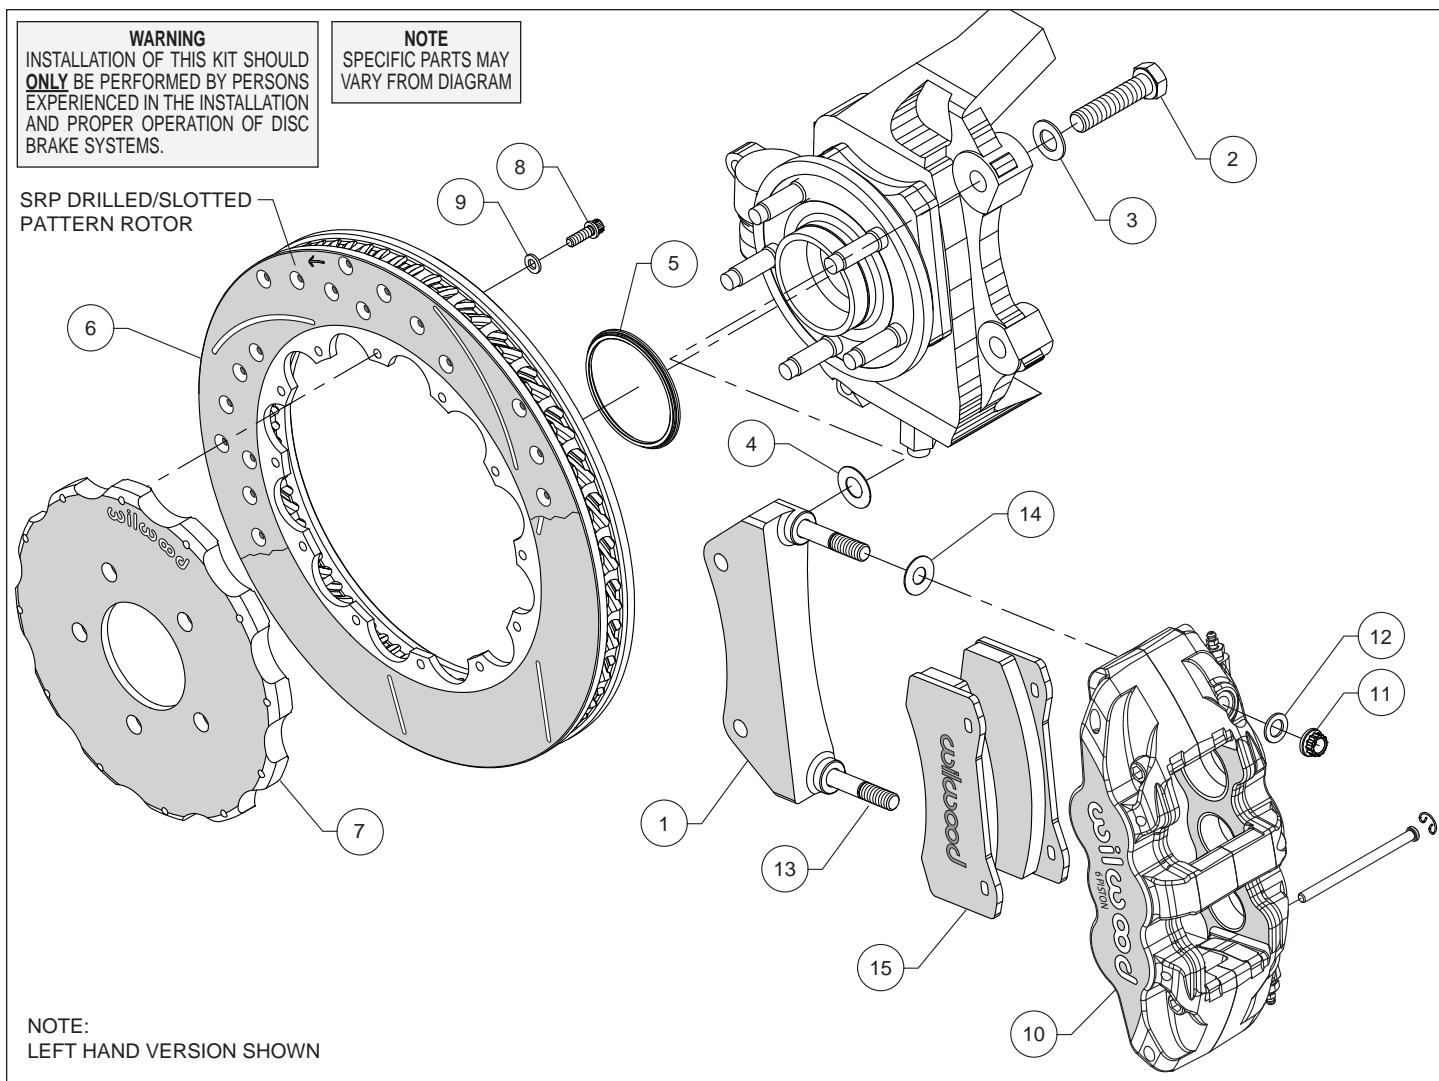
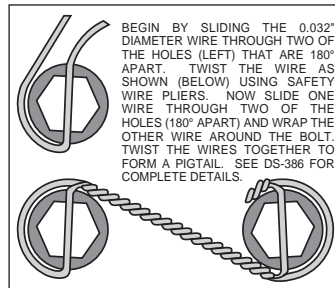

Figure 1. Typical Installation Configuration
Figure 3. Safety Wire Diagram
Assembly Instructions (numbers in parenthesis refer to the parts list and Figure 1 on the preceding pages):
- The caliper mount bracket (1) should initially be installed with clean, dry threads on the mounting bolts. Orient the bracket as shown in Figure 1 and Photo 1, and install using bolts (2) and washers (3). Initially place one .029 thick shim (4) on each bolt between the bracket and upright, Figure 1. Temporarily tighten the mounting bolts. **NOTE:** *The bracket must fit squarely against the mounting points on the upright.* Inspect for interference from casting irregularities, machining ridges, burrs, etc. Later, after the caliper alignment has been checked, the mount bolts will be secured using red *Loctite*[®] 271.
- Orient the rotor (6) and the hat (7) as shown in Figure 1 and Photo 2. Attach rotor to hat using bolts (8) and washers (9). Using an alternating sequence, apply red *Loctite*[®] 271 to the threads, and torque to 155 **in-lbs**. For an added measure of security, the bolts may be safety wired using standard 0.032 inch diameter stainless steel safety wire as shown in Figure 3. Please refer to Wilwood's data sheet DS-386 (available at www.wilwood.com/Pdf/DataSheets/ds386.pdf) for complete safety wire installation instructions.
- **NOTE:** *This kit contains distinct right and left hand calipers that must be mounted in a specific direction, as described below.* Lubricate the caliper mounting studs (13) with lightweight oil. Initially place one .030" thick shim (14) on each stud between the caliper and the bracket, as shown in Figure 1 and Photo 5. Mount the caliper (10) onto the bracket (1) using lock nuts (11) and washers (12), Figure 1. Ensure that the caliper is mounted so the largest pistons are at the rotor exit end of the caliper, in relation to the direction of rotor rotation. Temporarily tighten the lock nuts and view the rotor through the top opening of the caliper. The rotor should be centered in the caliper, Photo 6. If not, adjust by adding or subtracting shims (4) between the bracket and the upright. Always use the same amount of shims on each of the two mounting bolts. Once the caliper alignment is correct, remove the bracket mounting bolts (2) one at a time, apply red *Loctite*[®] 271 to the threads, and torque to 77 ft-lb.
- Remove the two pad retaining pins from the caliper (10) by carefully popping out the pin retaining clips and sliding out the pins. Insert the brake pads (15) into the caliper from the bottom, Figure 1 and Photo 7. With the friction material facing the rotor, secure the brake pads in place with the pad retaining pins and clips, Photo 8. Reinstall the caliper onto the caliper mounting bracket and temporarily tighten the lock nuts (11). Check that the top of the brake pad is flush with the outside diameter of the rotor, Photo 9. If not, adjust by adding or subtracting shims (14) between the caliper and the bracket. After the caliper pad height is set, torque the caliper lock nuts (11) to 47 ft-lb.